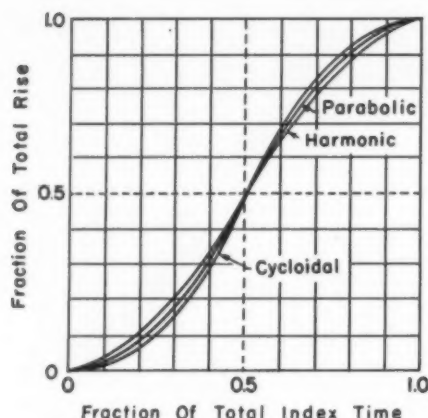
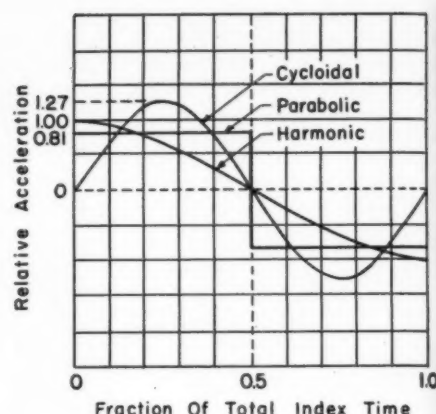
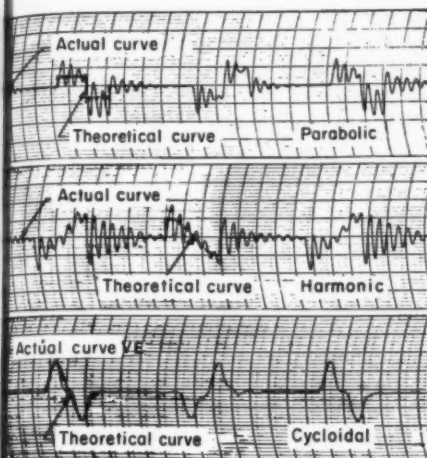

Fig. 2—Left—Theoretical curves of follower displacement versus time for parabolic, harmonic and cycloidal cams
Fig. 3—Right—Theoretical curves of follower acceleration versus time for the three cam types
Fig. 4—Typical acceleration versus time charts at 100 rpm cam speed. Accelerations are directly proportional to forces exerted on the followers
The displacement-time curves plotted from the foregoing equations are shown in Fig. 2, while the acceleration-time curves plotted from the same equations are shown in Fig. 3. These curves *do not* take into account such factors as the follower-system elasticity, or the static or viscous friction which appears in any actual machine system. When these factors are taken into account, as they must be in any actual tests, an entirely different force picture appears. Typical acceleration-time charts made from the tests are shown in Fig. 4.
The charts in Fig. 4 show two important characteristics which are not apparent from the theoretical curves in Fig. 3. They are (1), that the forces produced by the parabolic and harmonic profiles are about twice as great as expected; and (2), the sudden application of these forces causes the follower system to vibrate at its natural frequency. The vibration takes place during both index and dwell periods.
The conditions mentioned are illustrated in Figs. 4 and 5. Fig. 4 shows the effect of the instantaneously applied acceleration. A considerable amount of vibration is excited here and dies out in accordance with the amount of damping which is present. It is interesting to note that in the case of the parabolic